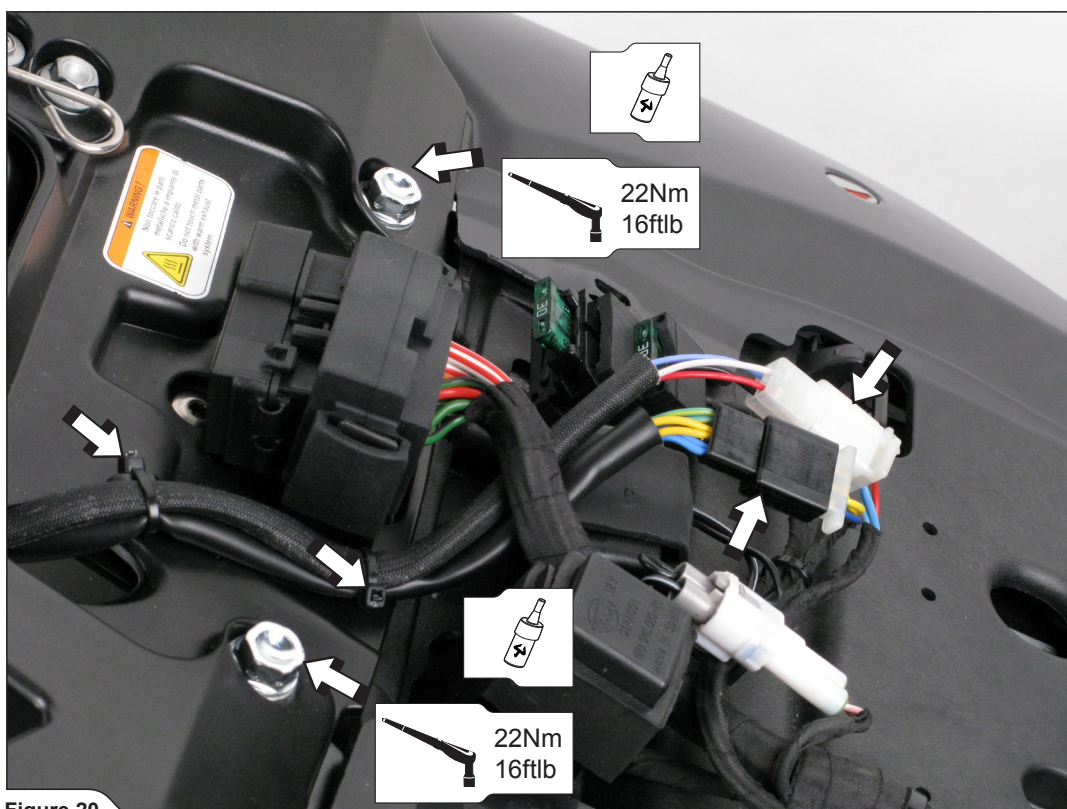

Figure 20
8. Tighten the mufflers bracket bolts to a specified torque, reconnect the electrical connectors and secure the electrical wires as shown, using plastic tie wraps (Figure 20).